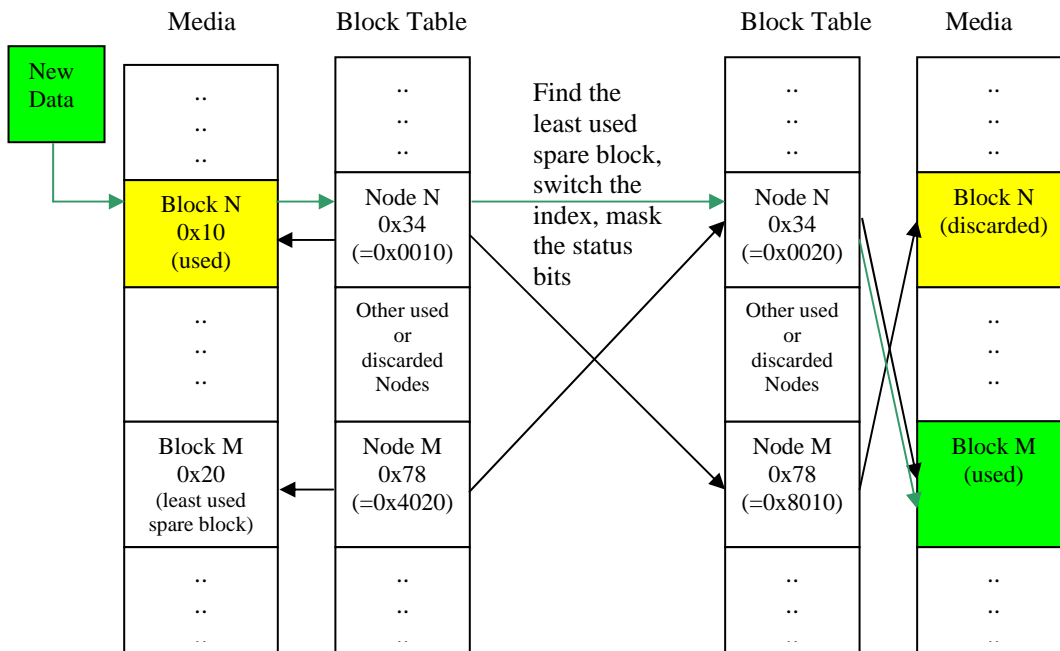

Figure 9: Flash Block Replace Procedure
Figure 9 shows the Flash Block Replace procedure. The new/modified data (green color) is written to a new block (M) and the old data block (N) (yellow color) is unchanged.